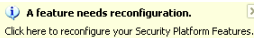

Figure 1
2. The Ultra TPM utility appears in the system tray after it is installed. To create a TPM key and save it to USB flash drive(s), right-click on the Ultra TPM icon  and select **Initialize**. A screen in Figure 1 will appear. Select a USB flash drive and click the **Enable Backup to BIOS** (Note 2) check box, or select at least two USB flash drives. Click **OK** and then enter the user password (Note 3) created with Infineon Security Platform Settings Tool. Click **OK** to store the key on your USB flash drive or in the BIOS.